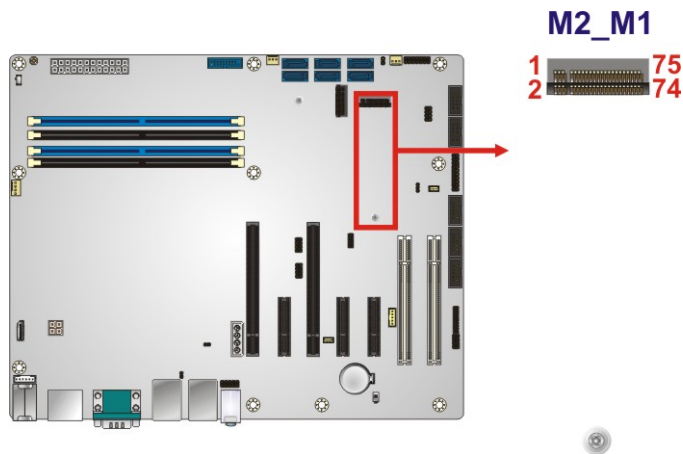

Figure 3-19: M.2 2280 Slot Location
- CN Location:** See **Figure 3-19**